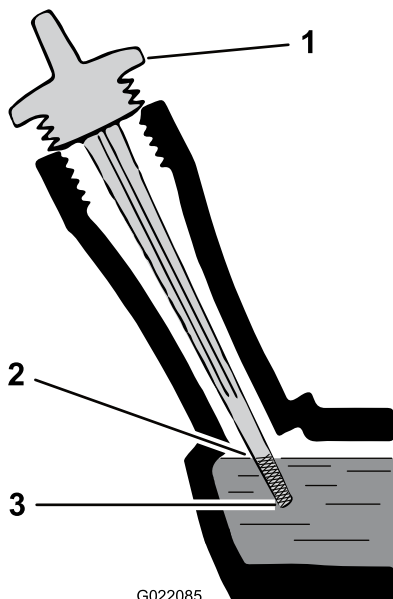

Figure 13
5. Insert the dipstick into the filler neck, but **do not rotate the cap clockwise to secure it** (Figure 13), then remove it.